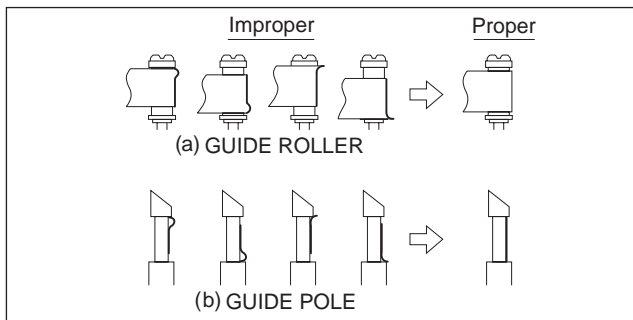
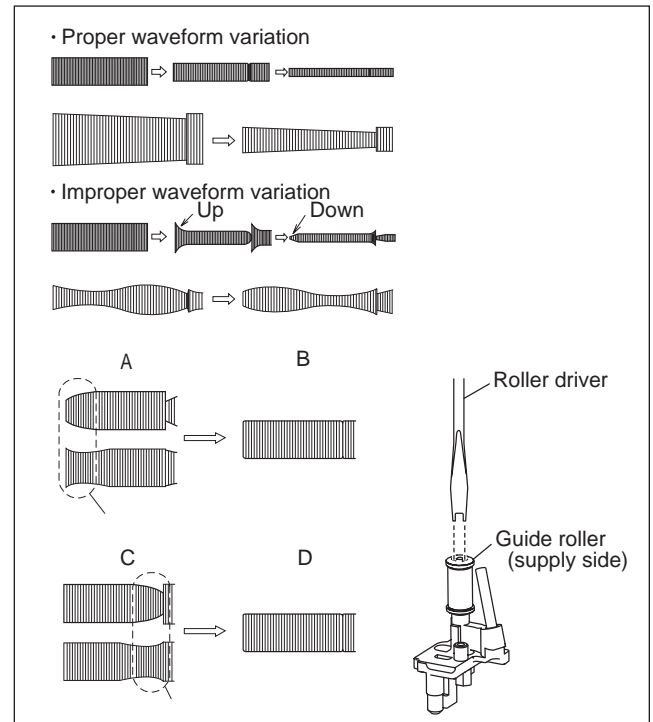

Fig.3-2-2a
Fig.3-2-2b
- To prevent damaging the alignment tape in the compatibility adjustment, prepare a cassette tape (for self-recording/playback), perform a test on it by transporting it and making sure that the tape is not bent by the tape transport mechanisms such as in the guide rollers.(See Fig.3-2-2a.)
- (1) Play back the alignment tape (A1).
- (2) Apply the external trigger signal to D.FF (E), to observe the V.PB FM waveform at the measuring point (D).
- (3) Set the VCR to the manual tracking mode.
- (4) Make sure that there is no significant level drop of the V.PB FM waveform caused by the tracking operation, with its generally parallel and linear variation ensured. Perform the following adjustments when required. (See Fig. 3-2-2b.)
- (5) Reduce the V.PB FM waveform by the tracking operation. If a drop in level is found on the left side, turn the guide roller of the pole base assembly (supply side) with the roller driver to make the V.PB FM waveform linear. If a drop in level is on the right side, likewise turn the guide roller of the pole base assembly (take-up side) with the roller driver to make it linear. (See Fig. 3-2-2b.)
- (6) Make sure that the V.PB FM waveform varies in parallel and linearly with the tracking operation again. When required, perform fine-adjustment of the guide roller of the pole base assembly (supply or take-up side).
- (7) Unload the cassette tape once, play back the alignment tape (A1) again and confirm the V.PB FM waveform.
- (8) After adjustment, confirm that the tape wrinkling does not occur at the roller upper or lower limits. (See Fig. 3-2-2a.) [Perform adjustment step (9) only for the models equipped with SP mode and EP (or LP) mode.]